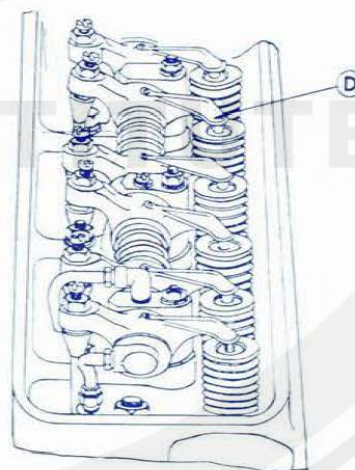

Fig. 3. No. 3 Exhaust Valve
3. With ignition "off", turn engine over until distributor rotor is approximately under No. 1 high tension terminal. If distributor has been removed turn engine over until No. 3 cylinder exhaust valve "D", Fig. 3, starts to open. Continue to turn slowly until the "Adv." mark on flywheel comes directly opposite the index line on flywheel housing. This is the position to fire No. 1 cylinder.